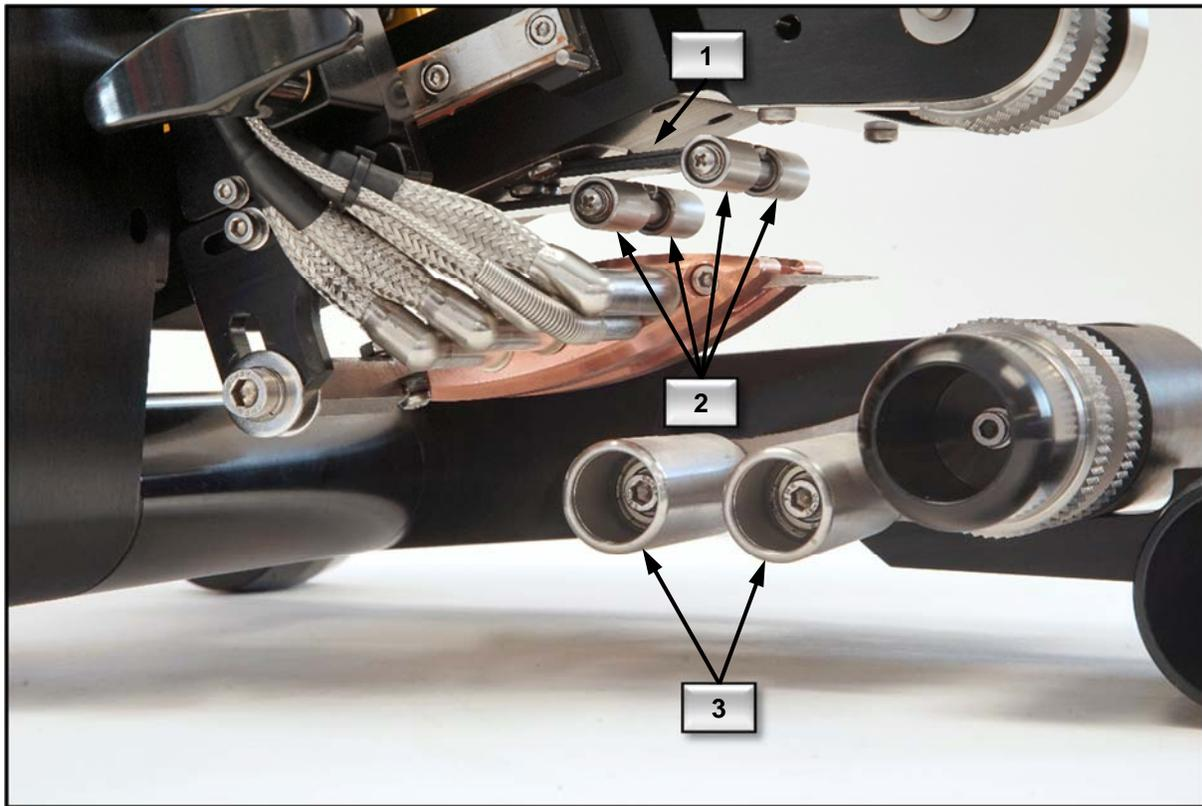

Figure 5
- 4.2.2 Remove the two Phillips head screws that attach the upper contour roller assembly mount plate (#1, Figure 5) to the nip arm and remove contour assembly from the unit. You may need to move the heating wedge fore or aft for access with screwdriver.